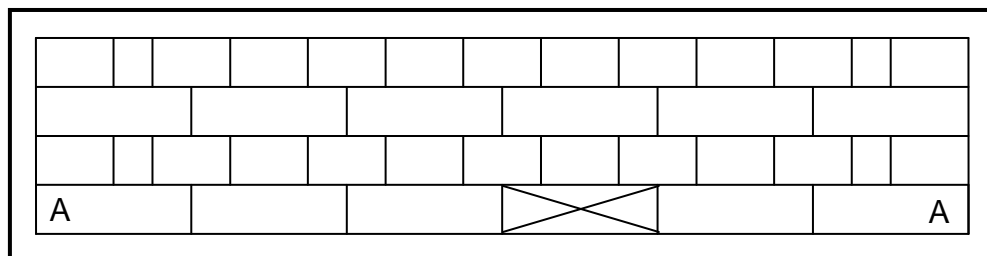

FIGURE 1.11
- 1.11 FIGURE 1.11 below shows the front elevation of a one-brick wall. Study the drawing and answer the questions that follow.